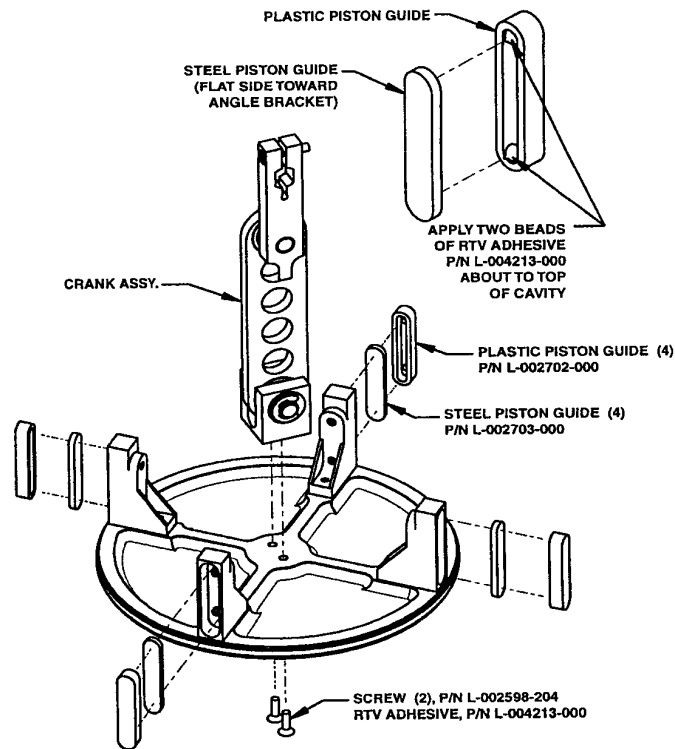

FIGURE 4-1.
4. Apply 2 beads of RTV adhesive (*GE Translucent 108*, P/N L-004213-000) into each of 4 new plastic piston guides (P/N L-002702-000). See Figure 4-1. Fasten the plastic piston guides to the steel guides, making sure no silicone is exposed. Wipe clean if necessary.